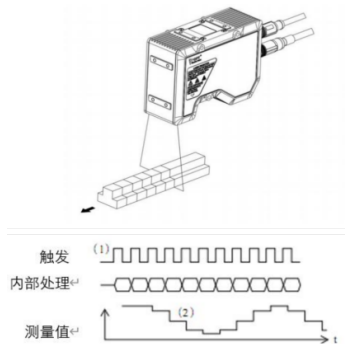

Figure 3.1.2 Time-Interval Triggered Acquisition
- **Time interval mode:** Automatically triggers continuous activation based on time intervals, performing sampling on an ongoing basis. As shown in Figure 3.1.2.